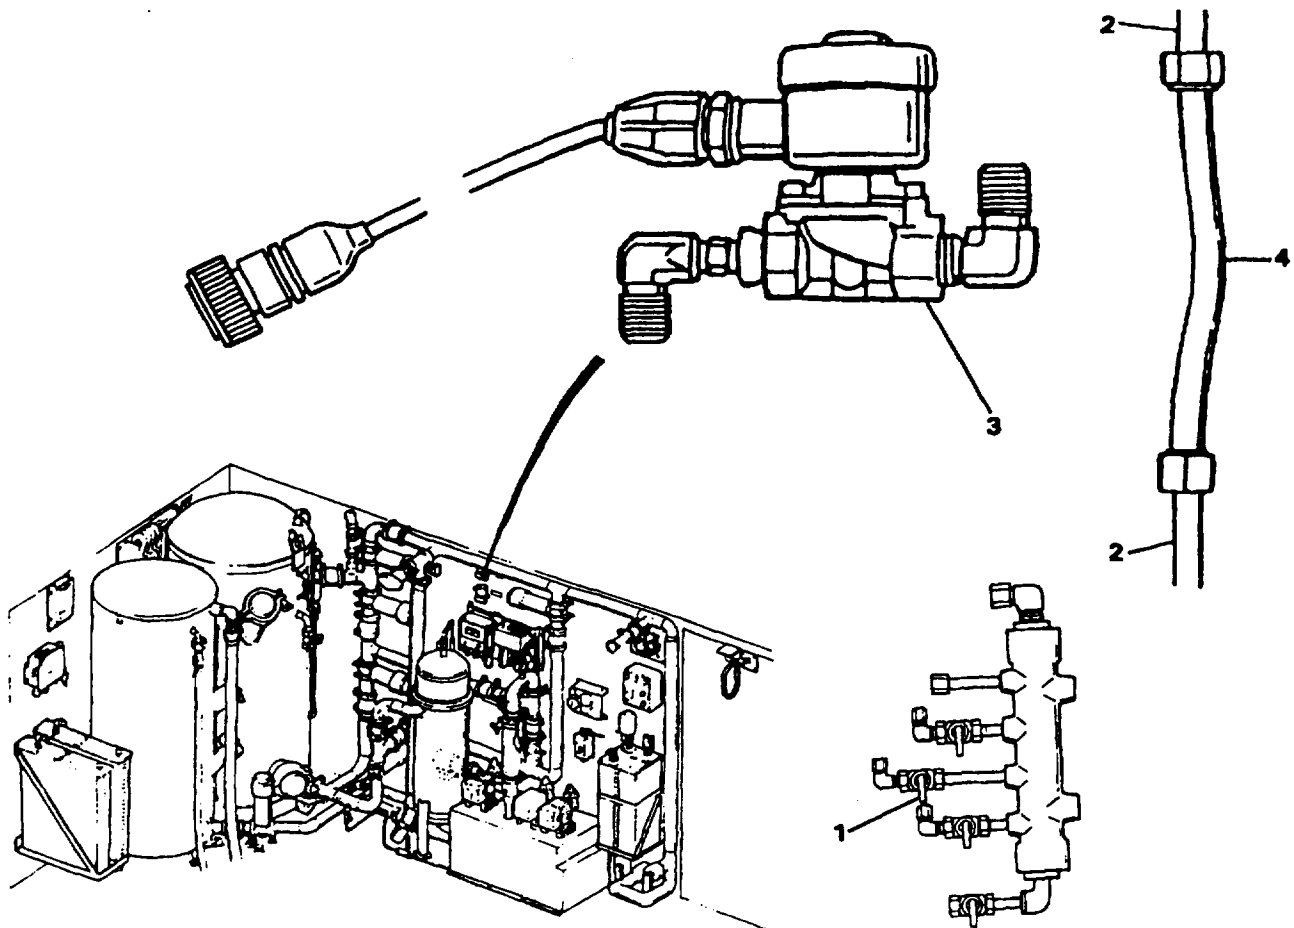
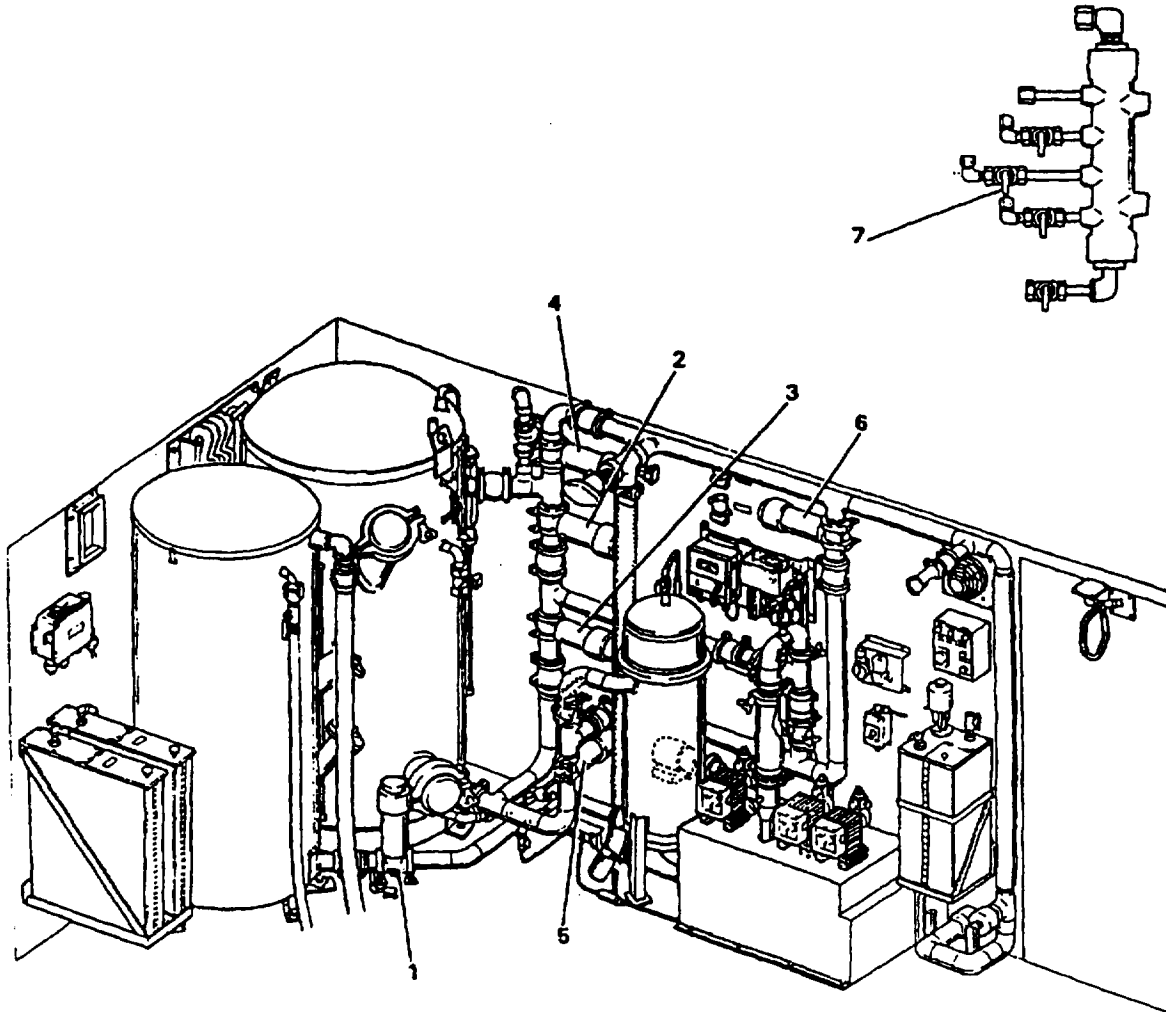

Figure 2-75. Bypassing Air Backwash Valve
Figure 2-76. Manually Operated Automatic Valve Position
- (4) Air backwash valve. This backwash air inlet solenoid valve can be bypassed to allow a complete manual backwash (Figure 2-75).
- (a) Close the backwash air block valve (1).
- (b) Disconnect the tubing (2) at both ends of the backwash valve (3).
- (d) Connect jumper tube (4, Figure 2-75) to free ends of disconnected tubing.
- (e) Partially open the backwash air block valve (1) during backwash. Air flow will be delivered. Watch that the system air pressure gage does not drop below 150 psig (1034 kPa). Close backwash air block valve (1) if it does.
- (5) Filter Normal Valve Positions (Figure 2-76). Position the manually operated automatic valve(s) according to positions listed below and then follow normal start-up procedures (para. 2-17).